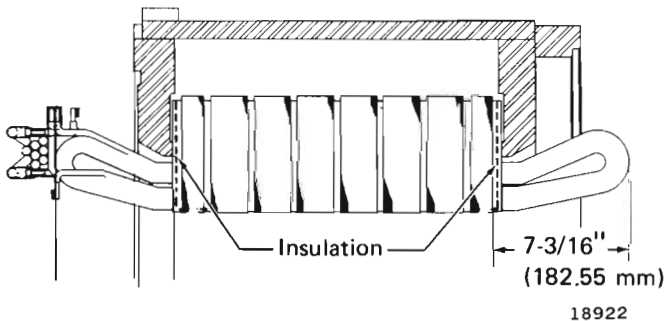

Fig. 3 - "U" Shaped Insulation
9. Install U-shaped insulation pieces in recesses at each end of slot, Fig. 3.
12. Position each coil so the end of the coil is 7-3/16" from the face of the first lamination, Fig. 3. A minimum air gap of 3/32" should be maintained between the upper and lower diamond sections of coils at both ends.